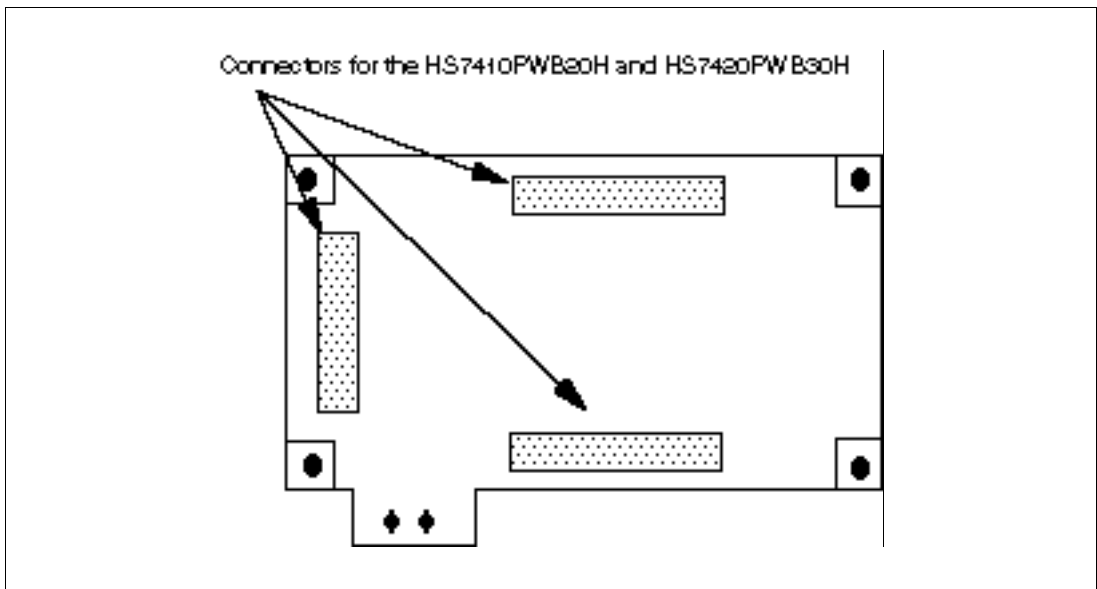

Figure 3.2 Top View of the HS7420PWB30H
1. At shipment, the HS7410PWB20H and HS7420PWB30H are connected to each other. Before connecting the EV-chip board to the user system, separate the HS7410PWB20H from the HS7420PWB30H. The HS7410PWB20H is connected to the HS7420PWB30H through three connectors as shown in figure 3.2.